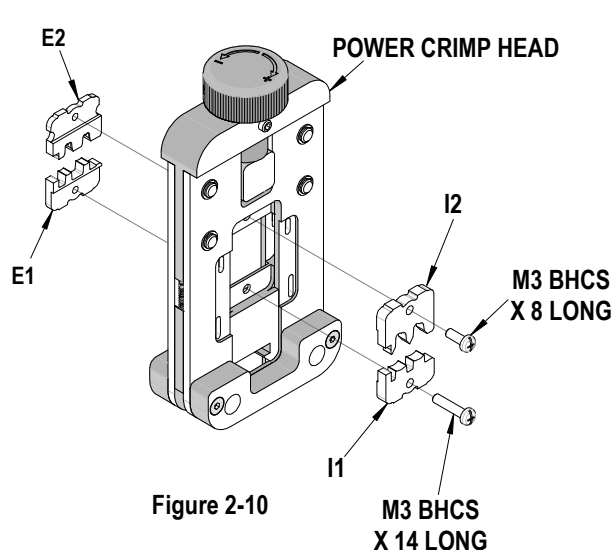

Figure 2-10
3. Remove the crimp dies as shown in Figure 2-10.
3. Insert the Punches or dies (E2 and I2) into the top slots of the nest. Install the M3 x 8 long BHCS and lightly tighten in place. See Figure 2-10